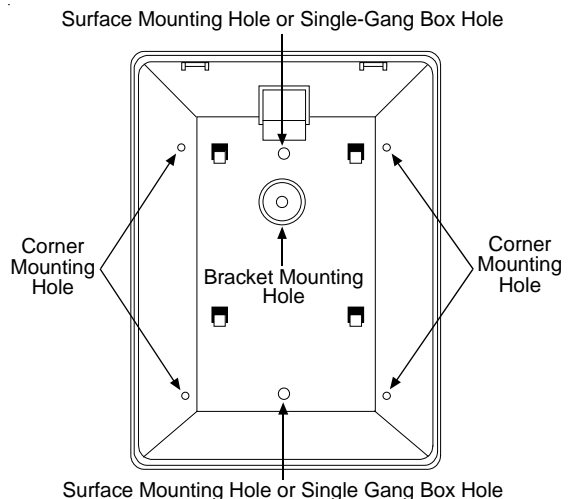

Figure 2: Detector Enclosure
- Open two holes (Figure 2) for surface or corner mounting.